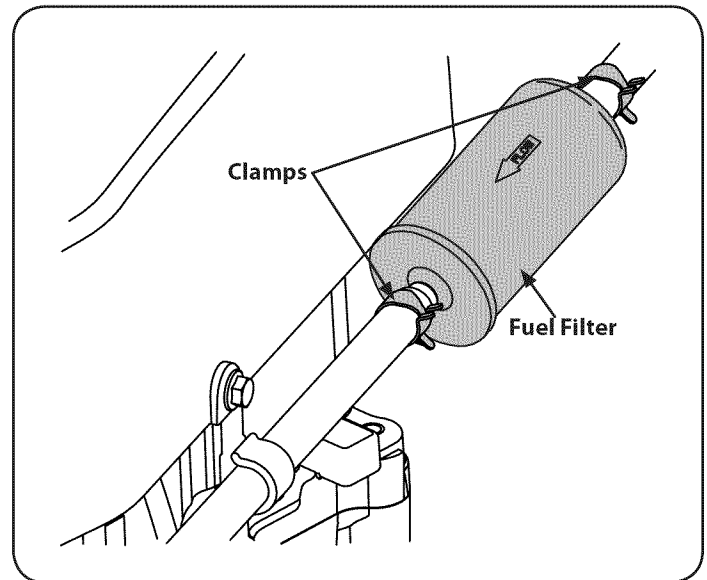

Figure 28
1. Locate the fuel filter, which is routed on the right side of the engine between the fuel tank and the engine. See Figure 28.